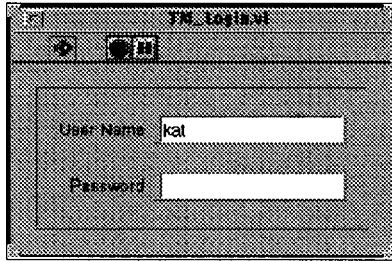

Fig.7. Login window of the TEMA
- Then the TEMA *login window* as shown in Fig.7 will be displayed.